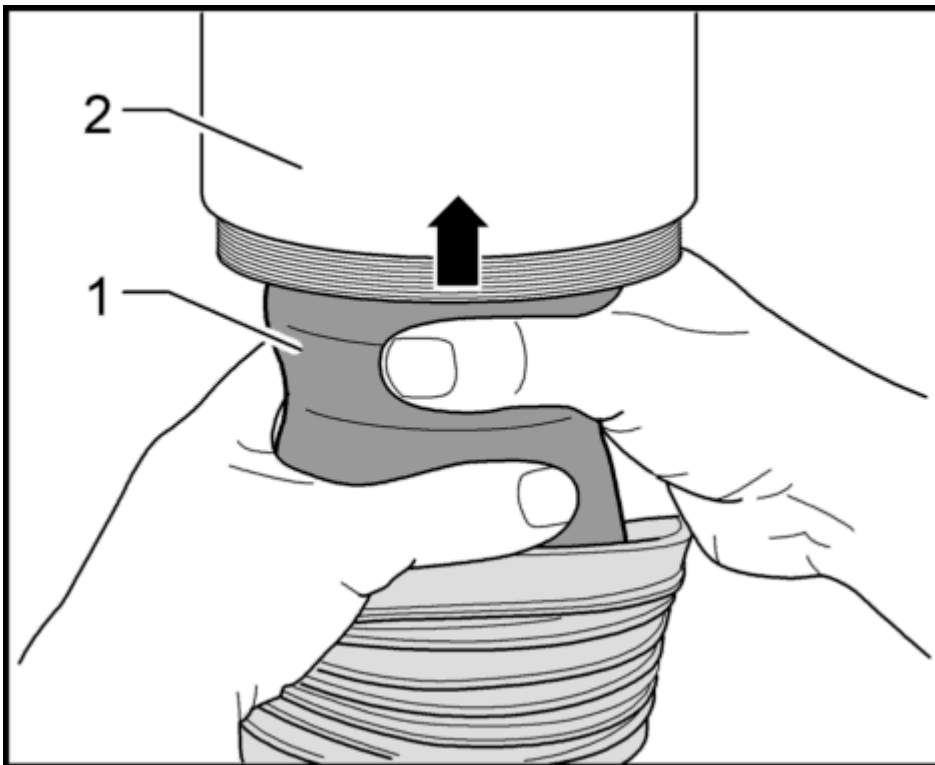

Fig. 40: Air-spring strut rolling piston
5. Push bellows downward and secure in this position (2nd worker required!). Grasp rolling piston -1- and remove it upward from the shock absorber by turning slightly to the left/right. See **Fig. 40**.